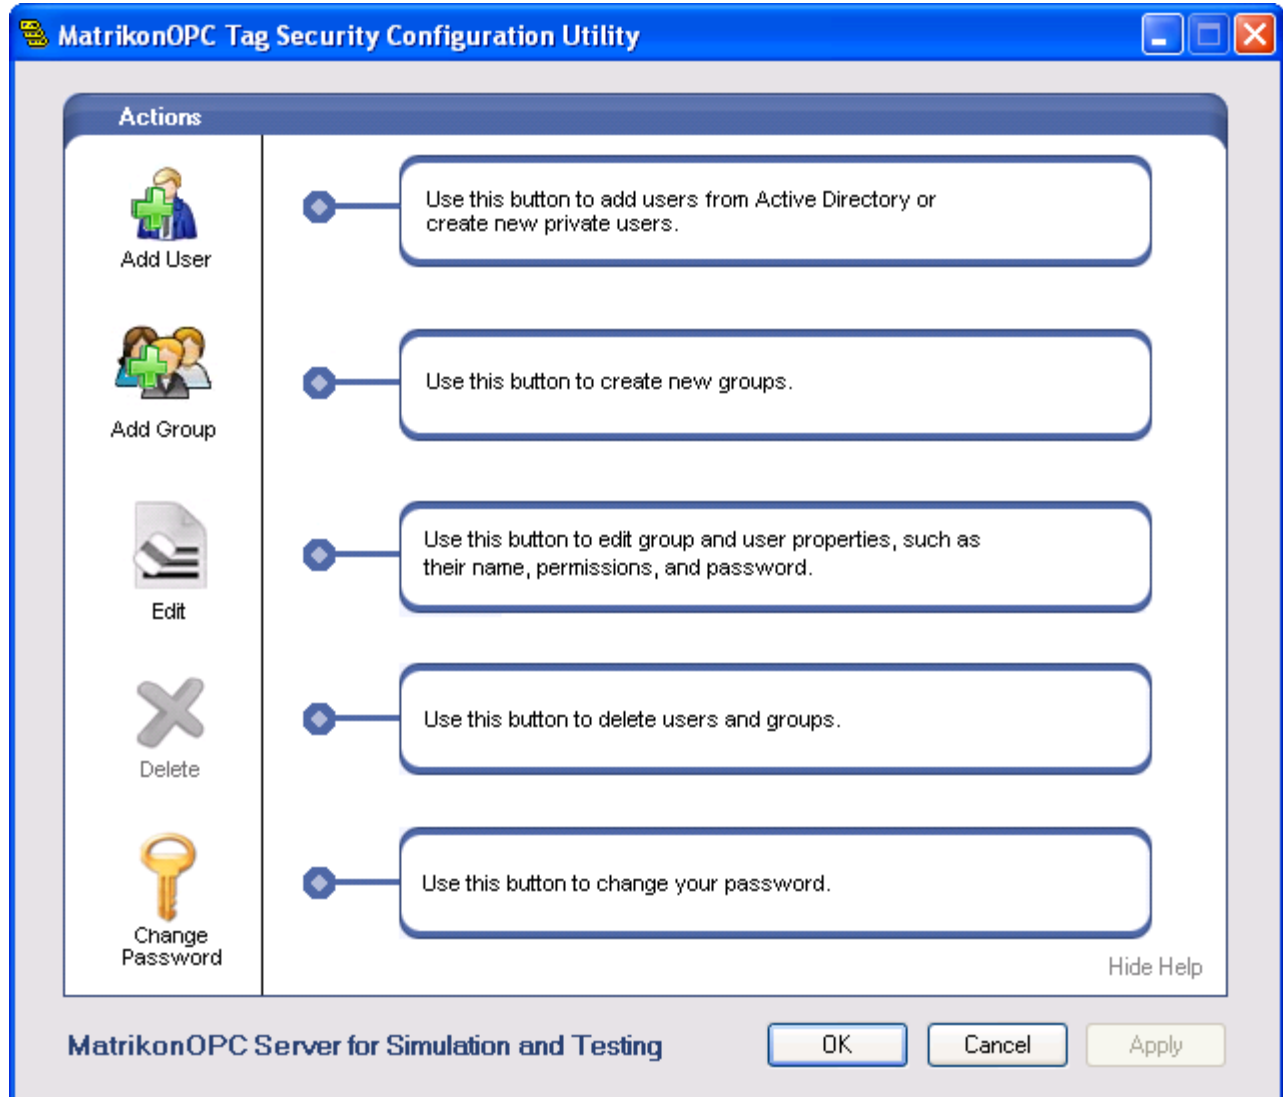

Figure 46 - MatrikonOPC Tag Security Configuration Utility Main Screen
4. The **MatrikonOPC Tag Security Configuration Utility** screen (Figure 46) appears.
The **MatrikonOPC Tag Security Configuration Utility** screen displays the name of the OPC server that is being configured for tag security. In Figure 46 above, the **Utility** screen shows that the **MatrikonOPC Server for Simulation and Testing** tag security is being configured.